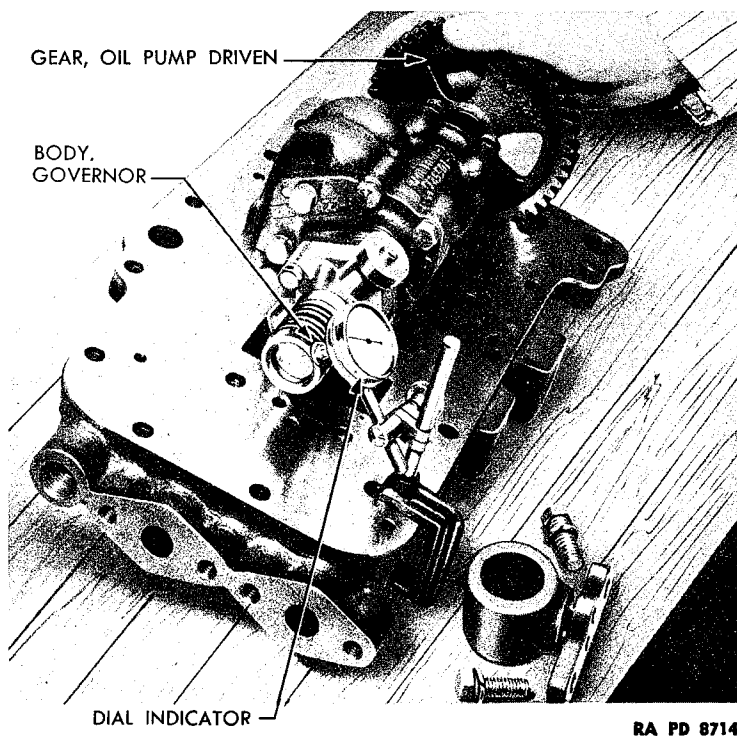

Figure 136 — Checking Governor Body Runout
Mount a dial indicator on the carrier with the indicator spindle touching the governor body at the outer ring band (fig. 136). Set indicator needle at "ZERO" and rotate governor body by turning oil pump driven gear. Total runout should not exceed 0.0025 inch. If it does, perform step (7) below; otherwise proceed directly to step (8), below.
(7) CORRECT GOVERNOR RUNOUT.